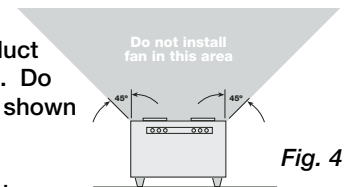

Fig. 4
1. For best performance, choose a location with the shortest possible duct run and minimum number of elbows. Do not mount near cooking equipment, shown in Fig. 4.